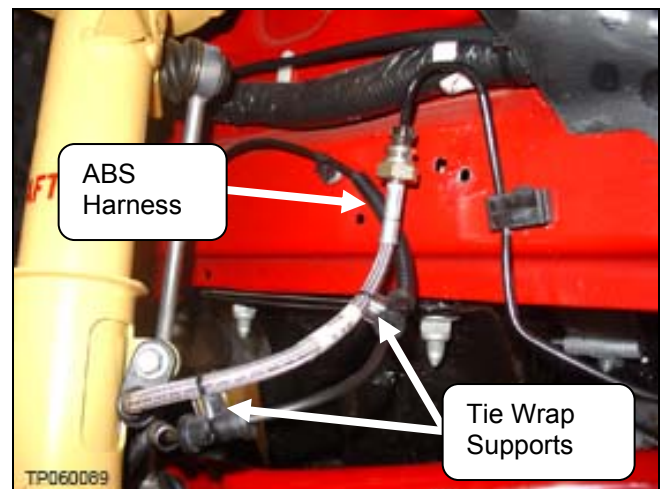

Figure 7
12. Secure the ABS harness to the brake hose using the two provided tie wrap supports (see Figure 7). Clip off the excess tie wrap material.